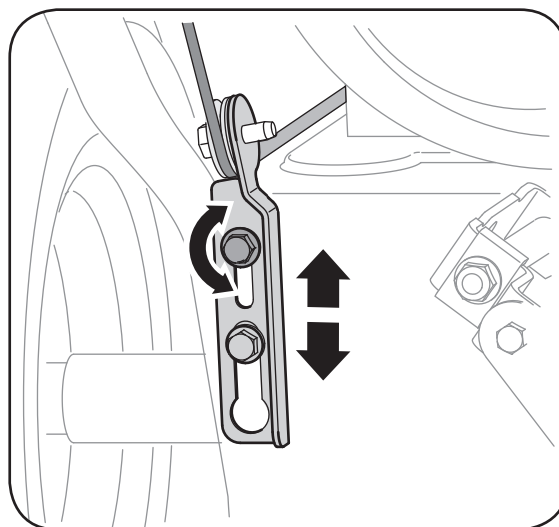

Figure 4-2
- Allow the auger to remain engaged for approximately ten (10) seconds before releasing the auger control. Repeat this several times.
- To readjust the control cable, loosen the upper hex nut on the auger cable bracket. See Figure 4-2.